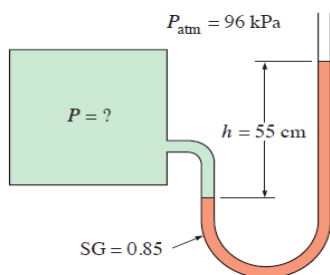

Figure3
- 13b** A manometer is used to measure the pressure of a gas in a tank. The fluid used has a specific gravity of 0.85, and the manometer column height is 55 cm, as shown in figure3. If the local atmospheric pressure is 96 kPa, determine the absolute pressure within the tank. **5Marks L3 C01**